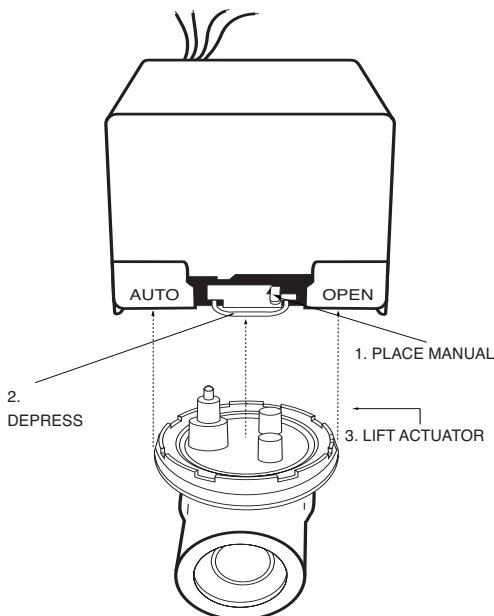

Figure 2. VU actuator removal
1. Place manual operating lever on the actuator in the MAN. OPEN position. See Fig.2.